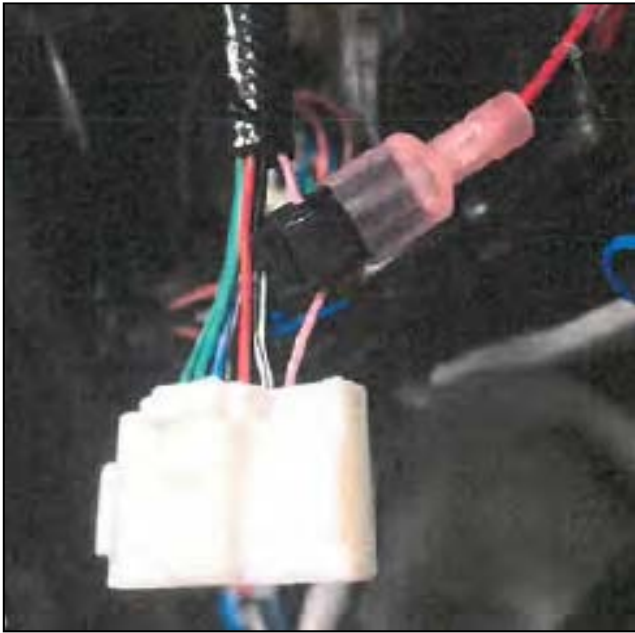

Figure 10A
14. Install a black T-Tap to connector F4 pin 8, pink wire. Then connect the red wire from DRL harness to T-tap. Connector F4 is located at the back of mirror control switch. See Figures 10A and 10B.